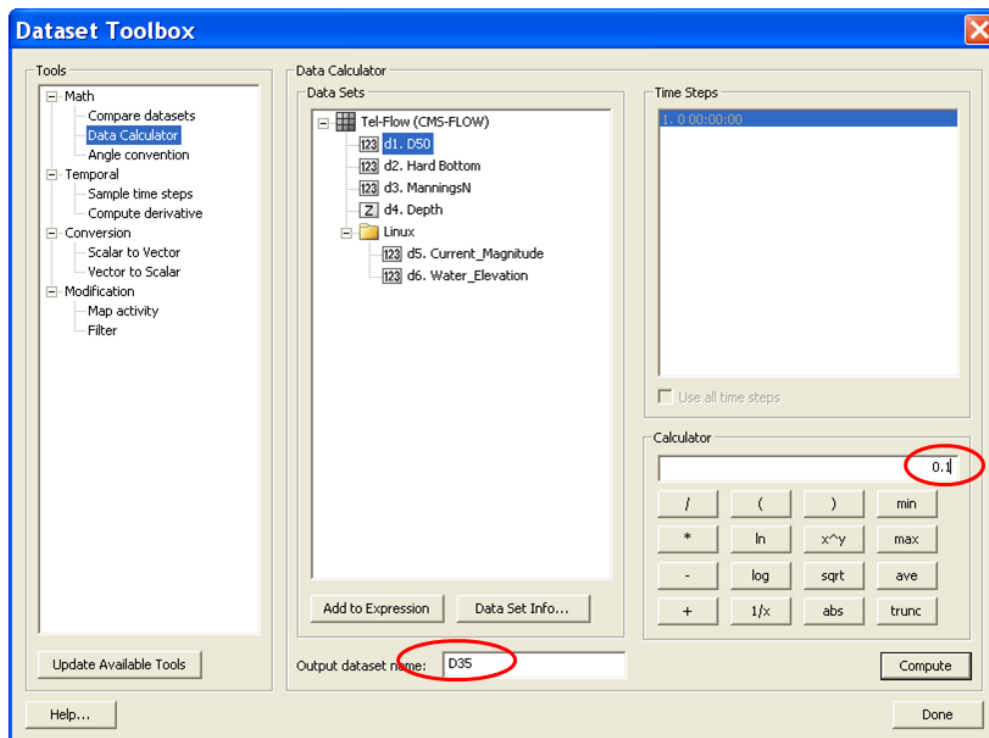

Figure 9. Generating spatially-varying sediment datasets, d35, d50, and d90.
- (e) Repeat steps (c) and (d) to generate the datasets for d50 and d90 (Figure 9).